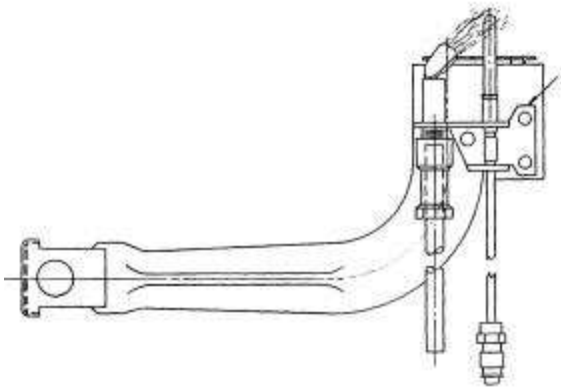

Figure 2
1. Pilot Adjustment - Figures 2 and 3